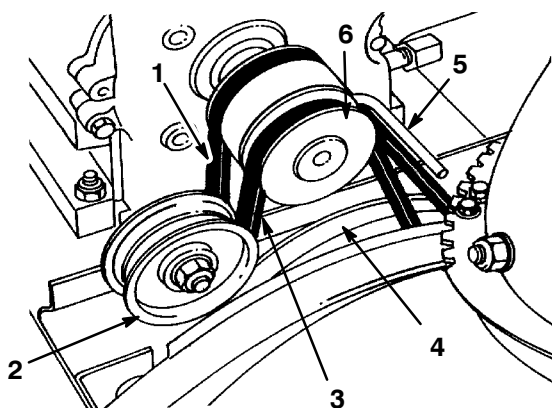

Figure 22
1. Screw (2)
4. Loosen the belt guide (Fig. 22).
5. Remove the auger/impeller drive belt from the engine pulley and the large auger/impeller pulley (Fig. 22).
10. Remove the traction drive belt from the engine pulley and the large traction pulley (Fig. 22).
12. Loop the belt over the engine pulley, making sure that the belt is on the inside of the belt guide (Fig. 22).
17. Install the auger/impeller drive belt around the large auger/impeller pulley and engine pulley, making sure that the belt is on the inside of the idler pulley and belt guide (Fig. 22).
If the auger/impeller drive belt (Fig. 22) becomes worn, stretched, oil-soaked, or otherwise damaged, replace the belt. You can obtain a new belt from your Authorized Service Dealer.
3. Loosen the belt guide (Fig. 22).
4. Remove the auger/impeller drive belt from the engine pulley and the large auger/impeller pulley (Fig. 22).
5. Install a new belt around the large auger/impeller pulley (Fig. 22).
6. Loop the belt over the engine pulley, making sure that the belt is on the inside of the idler pulley and the belt guide (Fig. 22).